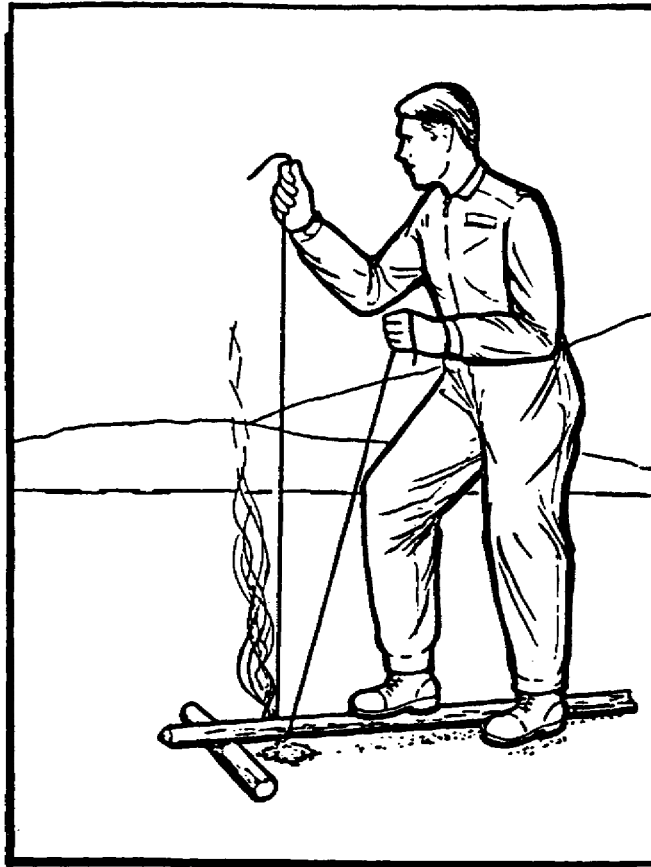

Figure 53. Fire thong.
(8) The fire thong. The fire thong, another friction method, is used in only those tropical regions where rattan is found. This simple system consists of a twisted rattan thong or other strong plant fiber 4 to 6 feet long and less than 1 inch in diameter and a 4-foot length of dry wood that is softer than rattan (deciduous wood) (Figure 53). Rub with a steady but increasing rhythm.